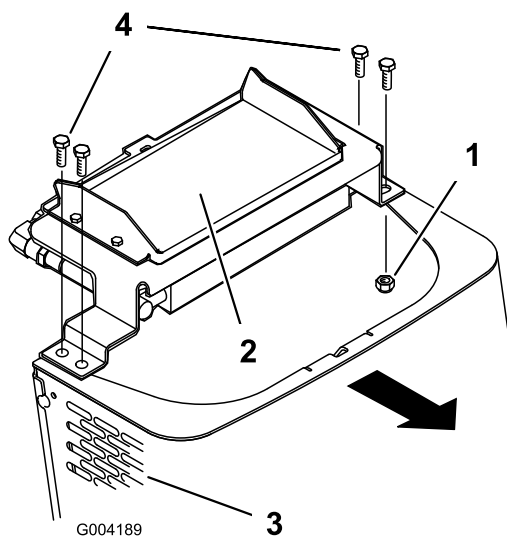

Figure 27
6. Remove the shoulder bolts and nuts securing the oil cooler to the top of the front screen (Figure 27).